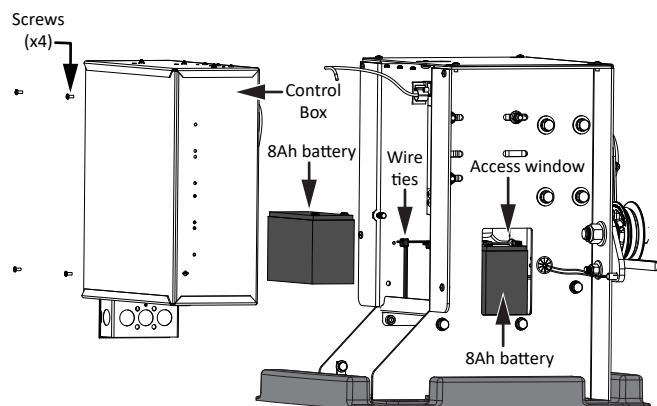

Figure 31. Batteries Access
2. Place the accessory tray on the studs inside the base riser. See Figure 31.